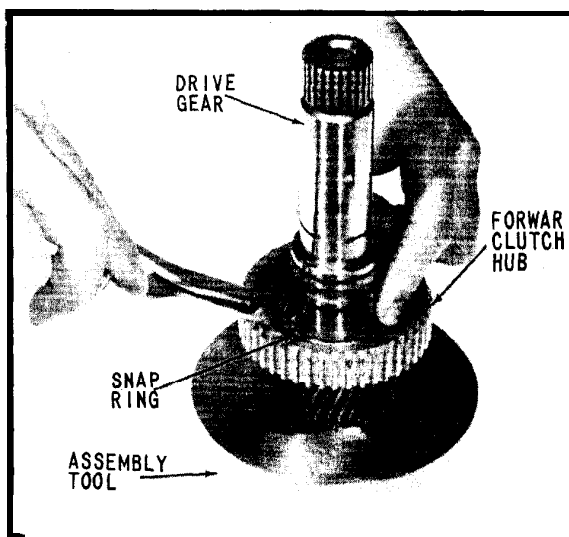
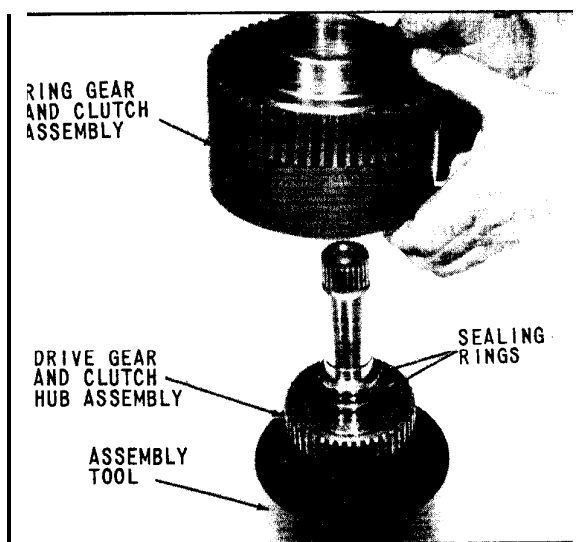

Fig. 45 Installing Clutch Hub Snap Ring
Fig. 47 Assembling Ring Gear and Clutch Assembly on Drive Gear
35. Invert the parts referred to in step 34 and install snap ring in the groove provided, (Fig. 45). Tap ring after assembly with suitable tool to insure full seating in groove.
37. With drive gear and clutch hub in assembly tool as shown in (Figs. 45 and 46), place ring gear and forward clutch assembly over drive gear as shown in (Fig. 47).